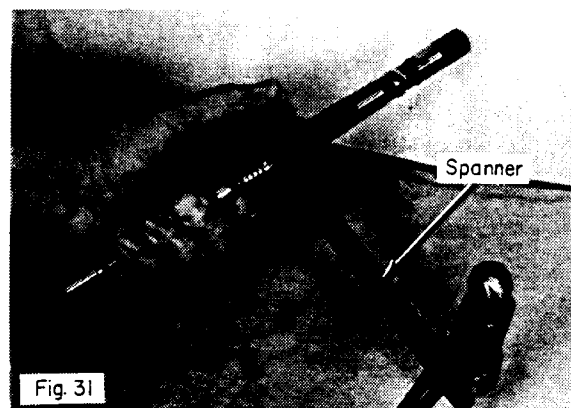

Fig. 31
- a. Hold the spool and spindle assembly by the spool in one hand and hook a Spanner Wrench on the lock nut (122) as shown in the illustration (Fig. 31).